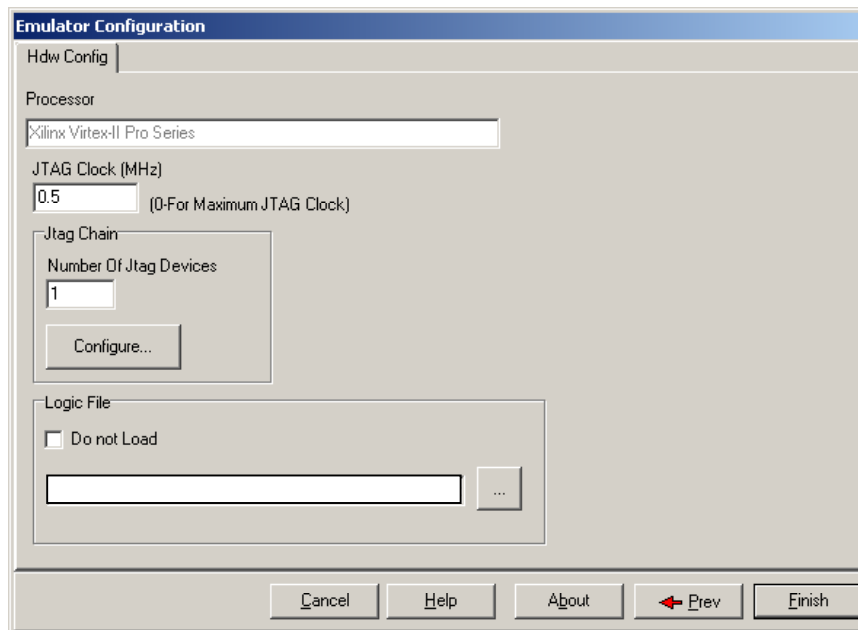

Figure 5. Emulator Configuration Window Displaying the Hdw Config Tab
5. Click **Next**. The **Hdw Config** tab opens (Figure 5).